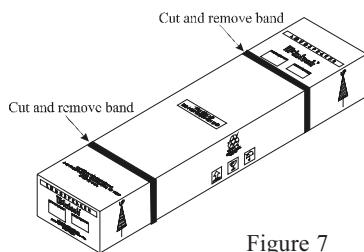

Figure 7
1. Remove the banding material from the shipping carton. Refer to figure 7.